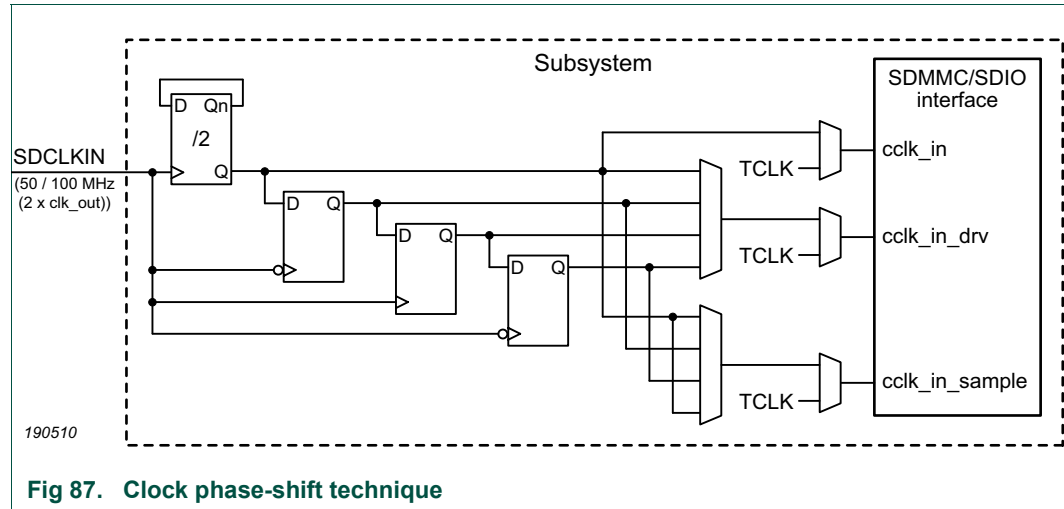

Fig 87. Clock phase-shift technique
Figure 86 illustrates relationships for these delays. Figure 87 shows the relationships between $cclk_in$, $cclk_out$, $cclk_in_sample$, and $cclk_in_drv$.
- Figure 87 The *cclk_in_drv* and *cclk_in_sample* clocks are phase-shifted versions of *cclk_in*. The value of the phase shift should be selectable, based on the speed modes. The phase shift can have a resolution of 90° or 45° with respect to the *cclk_in* clock period—the higher the resolution, the better it is. All clocks have a 50% duty cycle.